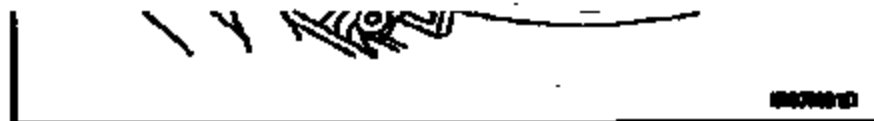

Figure 4
13. Disconnect two (2) vacuum lines from top of throttle body adapter.
14. Disconnect main engine wiring harness pushpin from rear of intake manifold. See Figure 4.